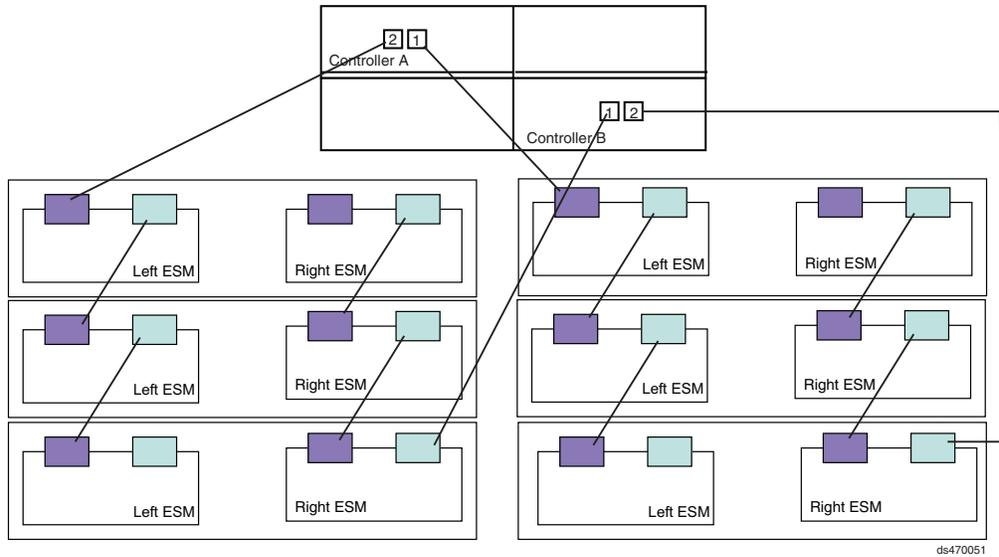

Figure 47. One DS4700 and up to six storage expansion enclosure — Recommended cabling
If you are cabling one DS4700 Storage Subsystem and up to six storage expansion enclosures, Figure 47 on page 62 shows the recommended cabling topology.
4. When connecting six storage expansion enclosures to a DS4700, IBM recommends using all ports in both drive channels. See Figure 47 on page 62 for the recommended cabling topology.